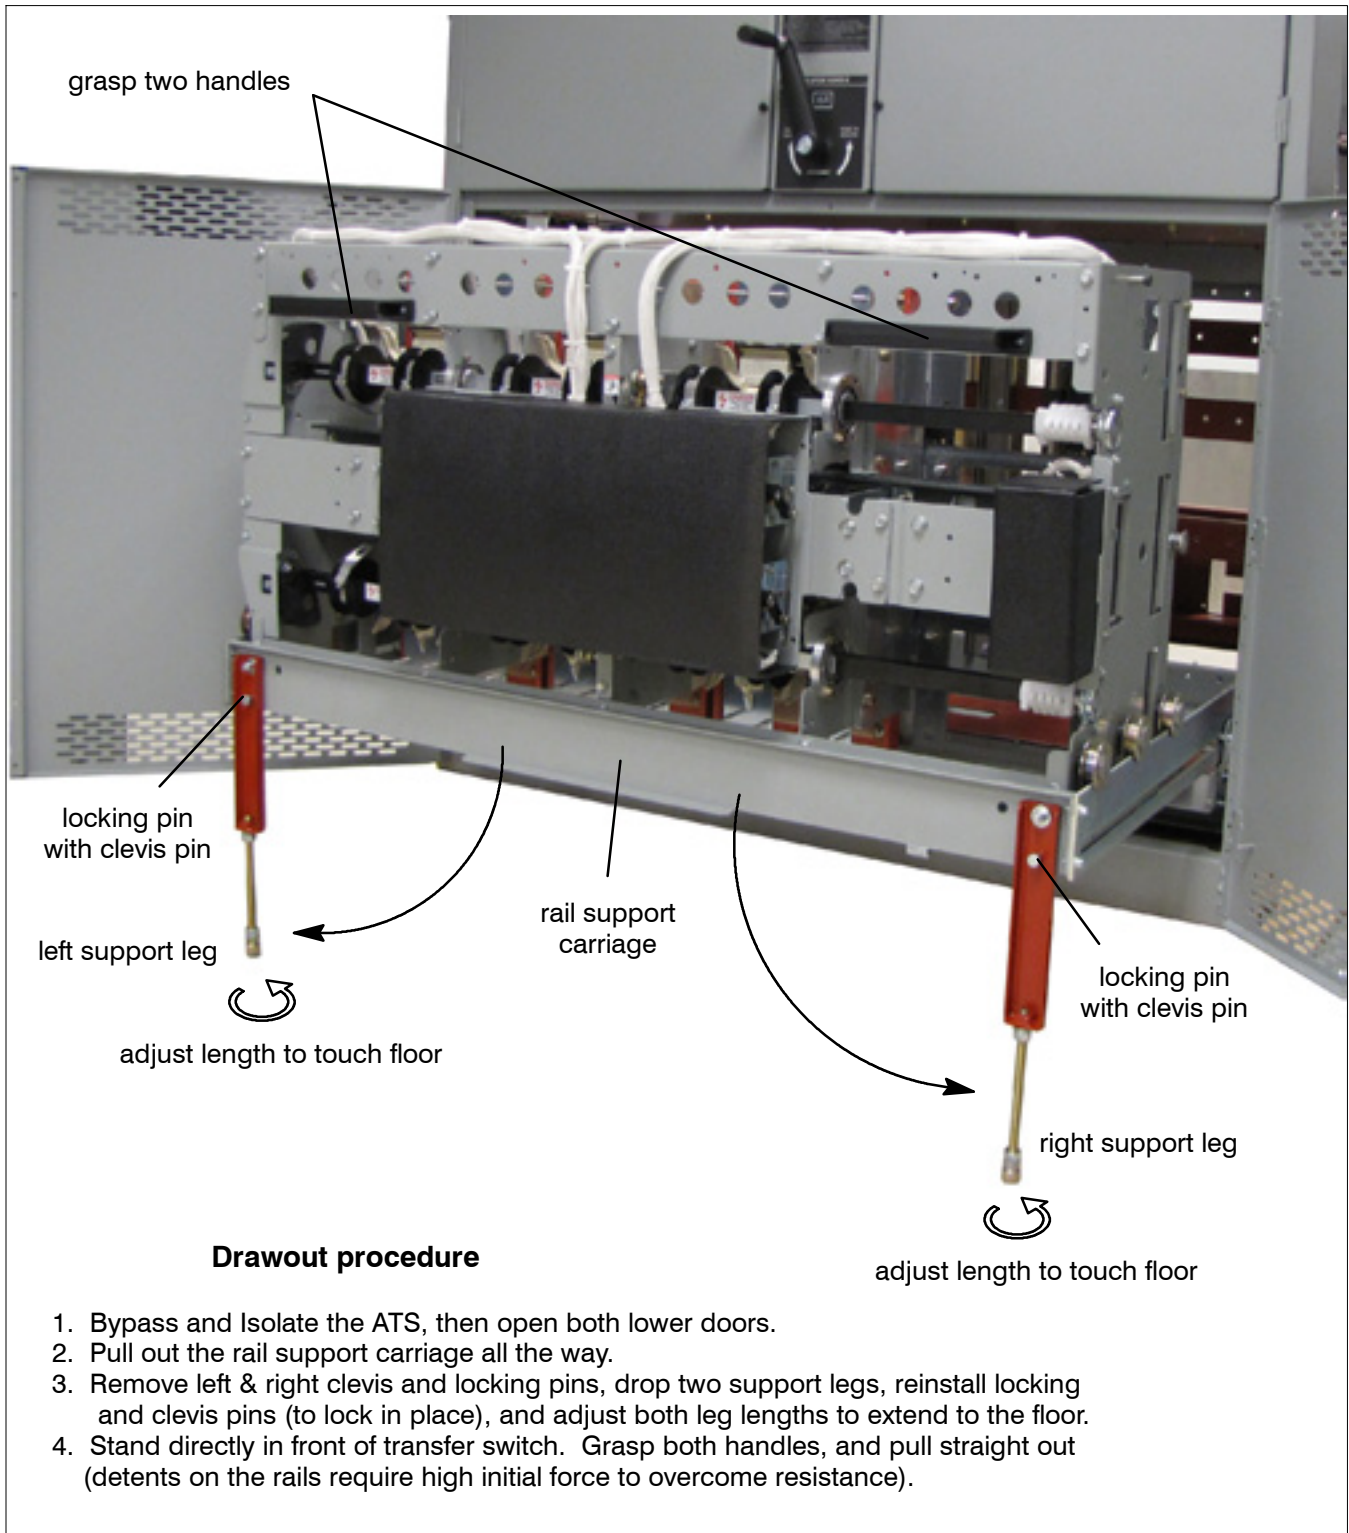

Figure 3-7b. 4000 amp transfer switch isolated and pulled out for inspection.
4. Open the lower enclosure door(s). Pull out the side rail carriage. On 4000 A extend two support legs; see Figure 3-7b. Then roll out the transfer switch. It can be safely inspected in this position. The transfer switch can also be removed for easier maintenance operations.
To avoid personal injury and equipment damage on 4000 A switches, two support legs must be extended as shown in Figure 3-7b. Substantial initial force is required to pull out the transfer switch (there are detents on rails).
- Slide the transfer switch (ATS) into the enclosure (isolation contacts facing inward) until its crank pins engage the latch plates on both sides. On 4000 A substantial force is required to overcome detents on the rails. Next push in side rail carriage. On 4000 A first retract the two legs and lock them in place. See Figure 3-7b. Then close enclosure door.